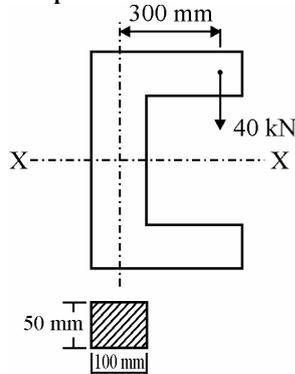

Fig. 5
- (e) A rectangular rod of size  $50 \text{ mm} \times 10 \text{ mm}$  is bent into 'C' shaped as shown in Fig. 5 and applied load of  $40 \text{ kN}$  at point A. Calculate the resultant stresses developed at section X – X.